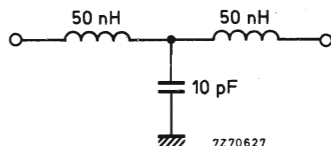

Fig. 9
- A low-pass filter (Fig. 9) with a cut-off frequency of about 300 MHz has to be inserted between the v.h.f. aerial terminal of the tuner and the aerial terminal of the receiver. Television receivers with a common v.h.f. /u.h.f. connector in combination with a low-pass/high-pass splitter ¹⁾ may not need this additional filter.